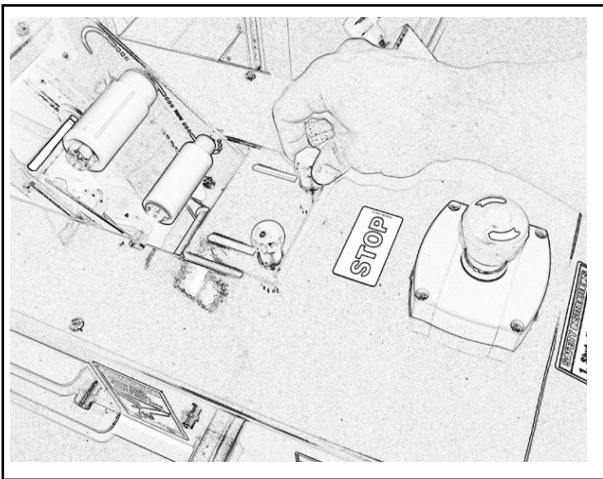

Figure 6-1—Loosen Thumb Screws
2. Loosen the thumb screws and move the clamp that secures the upper taping head as shown in Figure 6-1.